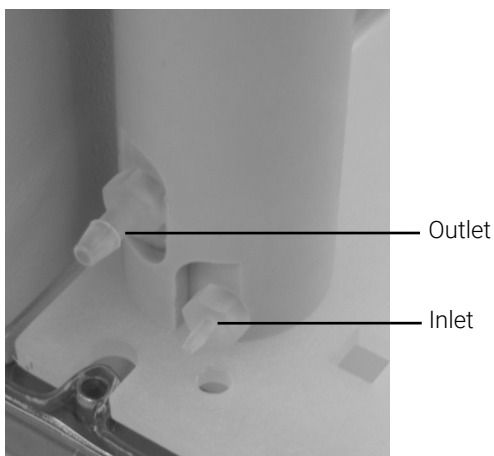

Figure 7. Close up of rinse reservoir mounted on rack location mat
- 5 The larger nipple on the front of the reservoir is the outlet connection (see Figure 7). Attach the 3.2-mm ID tubing to the outlet and place the other end of this drain line into a suitable waste collection receptacle.
- 6 The smaller nipple on the front of the reservoir is the inlet connection (see Figure 7). The tubing you attach to the inlet connects to the pump tubing.